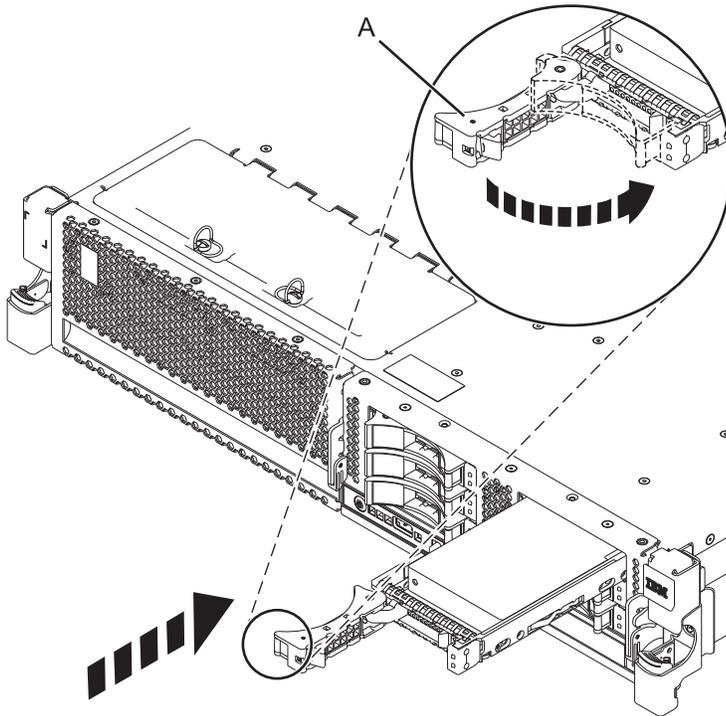

Figure 35. Installing a disk drive in the 8231-E2B, 8231-E1C, or 8231-E2C
11. When the service indicator starts flashing, slide the disk drive all the way into the system or expansion unit, and push the disk drive handle (A) in until it locks, as shown in Figure 35.